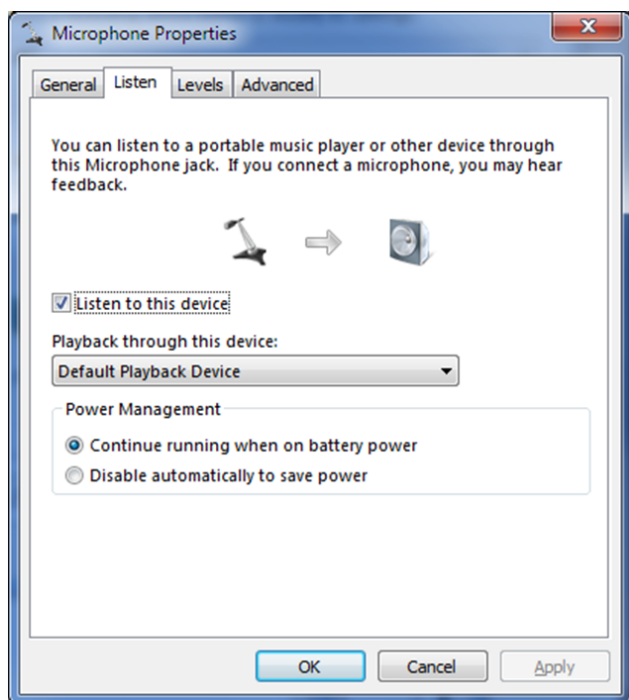

Figure 6. Windows Microphone Properties Window
You can control the properties of the **ADMP441** USB audio device in Windows as follows. (The following steps and the screenshot in Figure 6 are for Windows 7. For other versions of Windows software, this procedure may vary.)
4. In the **Microphone Properties** window, click the **Listen** tab (see Figure 6).